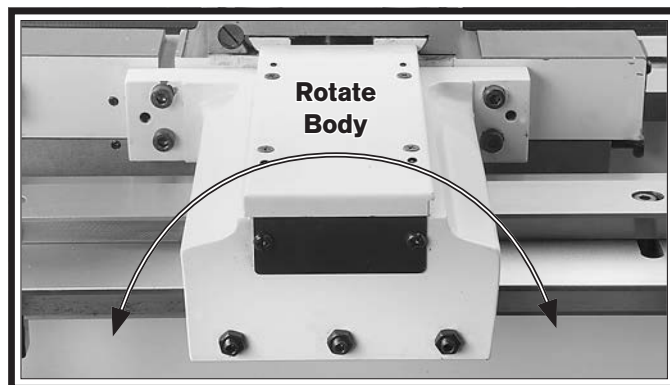

Figure 22. Attachment table tilt adjustment.
33. Loosen the four cap screws that secure the attachment to the saddle, then rotate the attachment assembly left or right to correct the table tilt (see **Figure 22**).